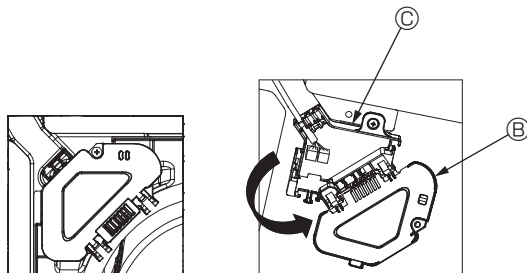

Fig. 4-5
- ③ Remove the one screw securing the connector box cover, and then open the cover. (Fig. 4-5)
- ④ Place the junction wire connector in the connector box.
- ⑤ Install the wire cover and connector box cover.